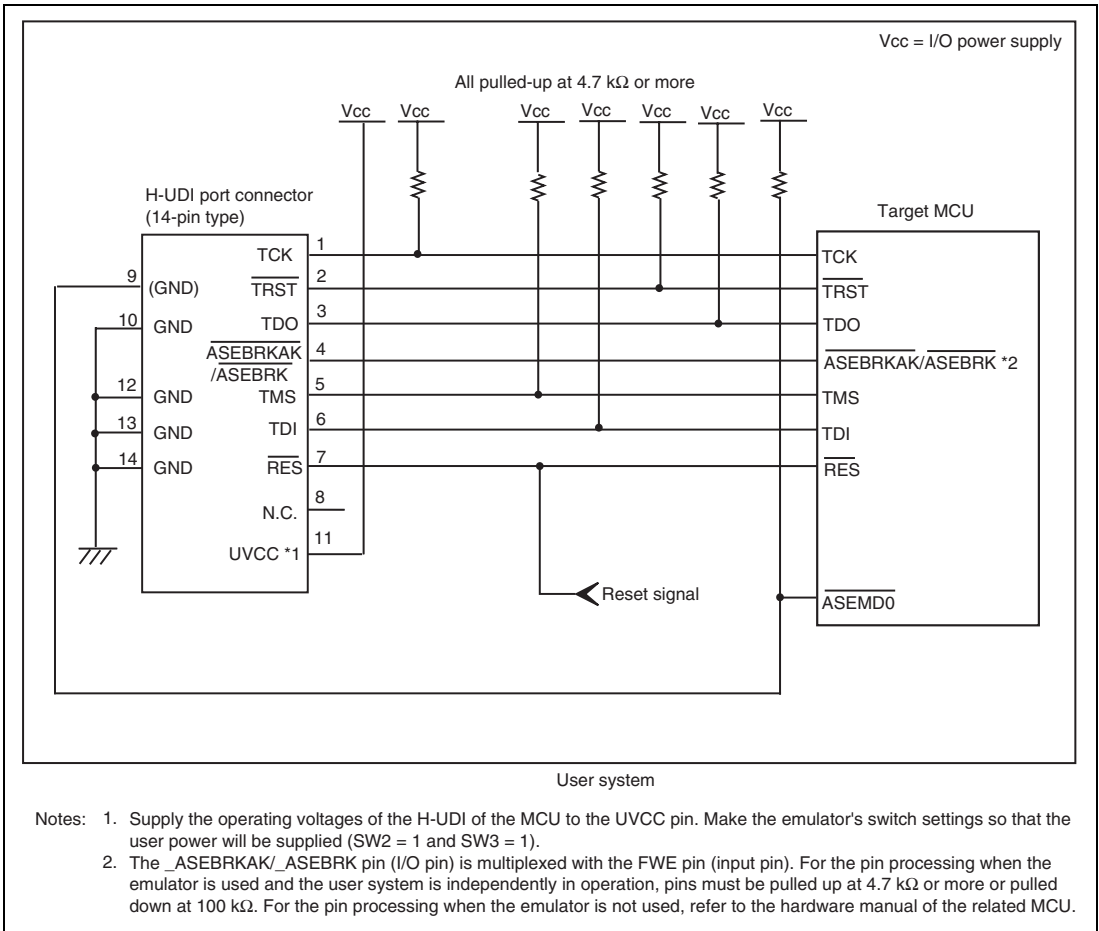

Figure 1.2 Recommended Circuit for Connection between the H-UDI Port Connector and MCU when the Emulator is in Use
Figure 1.2 shows a recommended circuit for connection between the H-UDI port connector and the MCU when the emulator is in use.
(1) When the emulator is used: `_ASEMD0 = 0`
(2) When the emulator is not used: `_ASEMD0 = 1`
Figure 1.2 shows an example of circuits that allow the `_ASEMD0` pin to be GND (0) whenever the emulator is connected by using the user system interface cable.
6. The resistance value shown in figure 1.2 is for reference.
When the circuit is connected as shown in figure 1.2, the switches of the emulator are set as SW2 = 1 and SW3 = 1. For details, refer to section 3.8, Setting the DIP Switches, in the SuperH™ Family E10A-USB Emulator User's Manual.